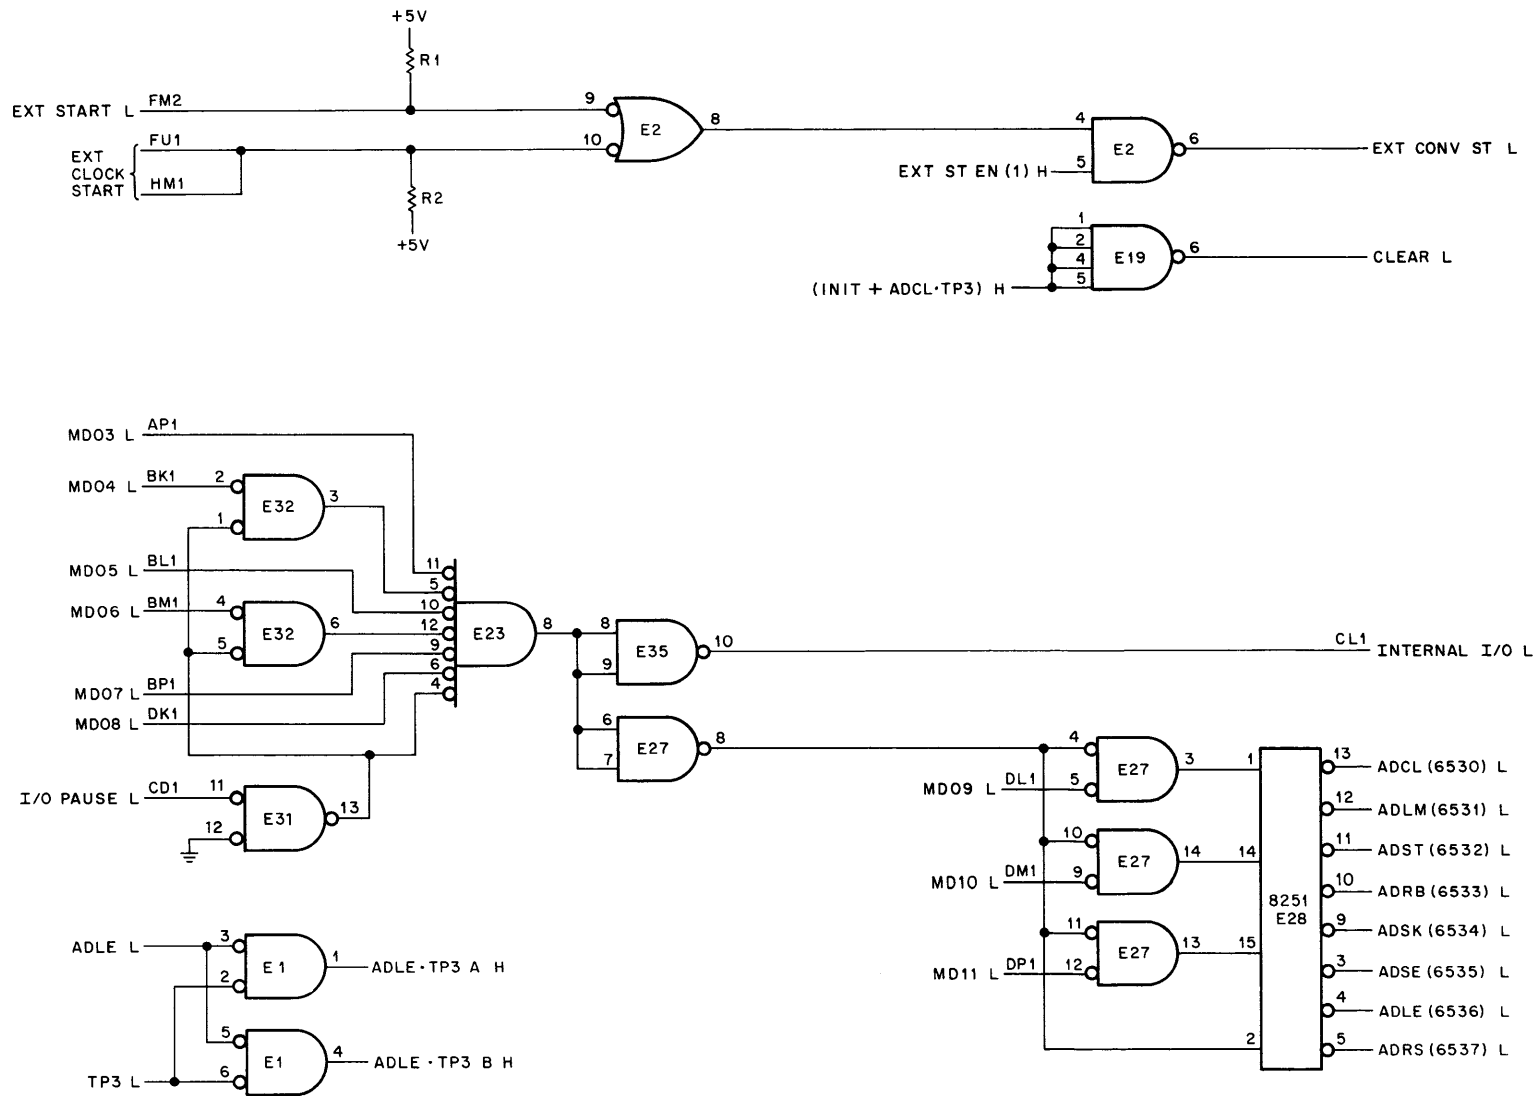

Figure 4-10 Device and Operation Select Logic
**4.2.2.1 Device and Operation Select Logic** — The Device Select logic (see Figure 4-10) will receive bits MD3 L—MD8 L and the I/O PAUSE L signal as inputs. I/O PAUSE will be generated 150 ns after the generation of TP1 in the FETCH cycle. The I/O PAUSE will be applied to AND gates in the Device Select logic to gate bits MD3 L—MD8 L. If these bits are 53 octal, an INTERNAL I/O L will be generated to indicate that the A/D converter will perform this operation.
**4.2.2.2 External A/D START and Time Pulse Logic** — Figure 4-10 shows the EXT START and EXT CLOCK START logic. EXT CONV START out of E2 will be low if the EXT START ENABLE flip-flop in the Enable register is set and EXT START L is asserted. This signal is used to start an A/D conversion when the Real-Time Programmable Clock, or other peripheral, is used to determine when an A/D conversion is to be performed.